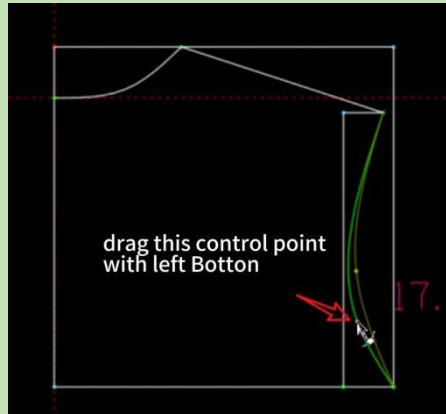

Figure4-51
1. Right-click on the line that needs to be adjusted. ( Figure4-51 ) .